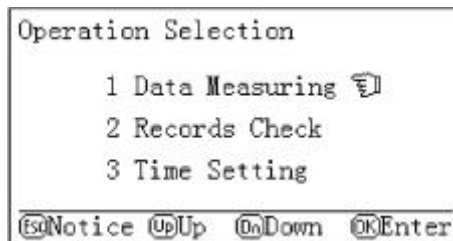
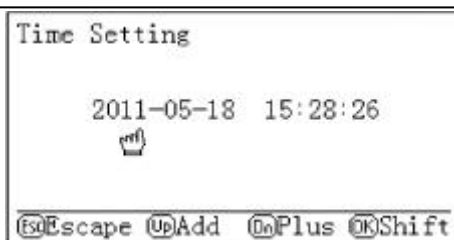

Figure 2
Figure 18
2. Now press the OK button, the function selection window appears as shown in Figure 2.
Figure 2 function selection window. In Figure 2 interface choose to perform parameter measurements, the system appears:
4. In the interface shown in Figure 2, if you select records check operation will display previously measured and stored data in each group, 14, may prompt the bottom of the screen according to key functions performed on the next page, under flip, data printing and other operations.
7. In the interface shown in Figure 2, if you choose time setting operation, the time setting screen appears, as shown in Figure 18, when the system time can be corrected.